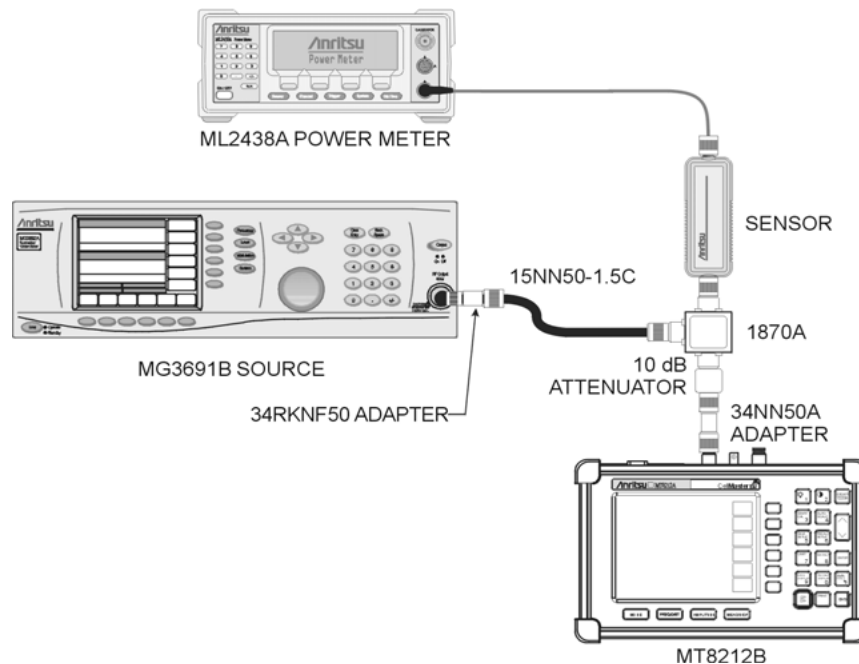

Figure 3-5. Power Meter Verification Setup
11. Remove Sensor A, install the 34NN50A adapter to the end of the Attenuator, and connect to the MT8212B as shown in Figure 3-5.